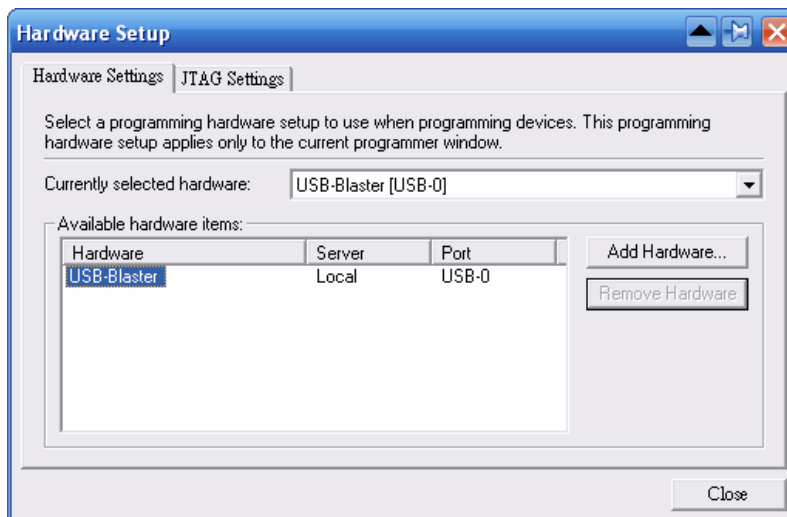

Figure 9. Hardware settings
- Step 6.** If it is not already turned on, turn on the USB-Blaster [USB-0] option under **Currently selected hardware**. See Figure 9.